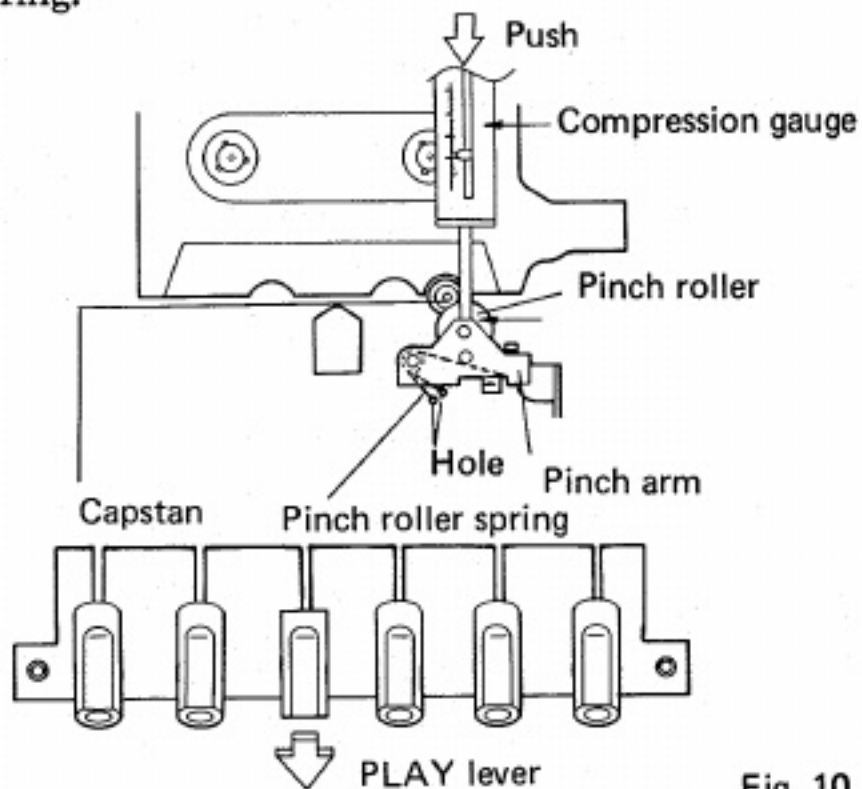

Fig. 10
2. Use a spring compression gauge to push the pinch arm, as shown in Fig. 10.